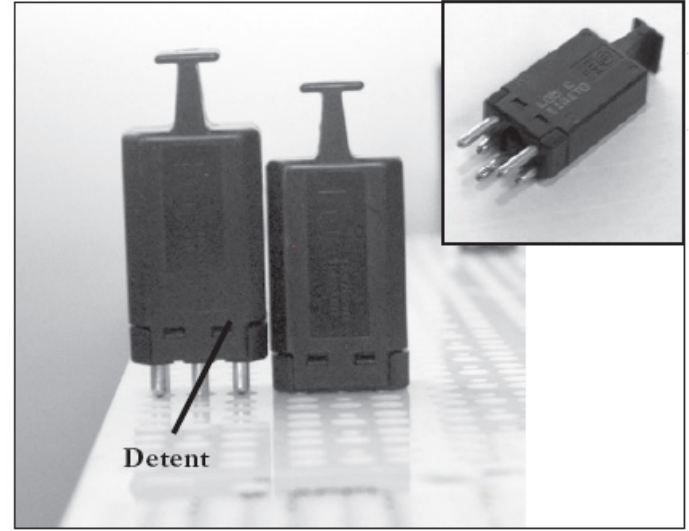

Figure 15
9.1 Protector modules come packaged in a separate carton. The protector module mounting field is keyed so that the protector modules can only be installed in one way (Figure 15 inset).
When a module is initially installed, it should be placed in the “detent” position (Figure 15).